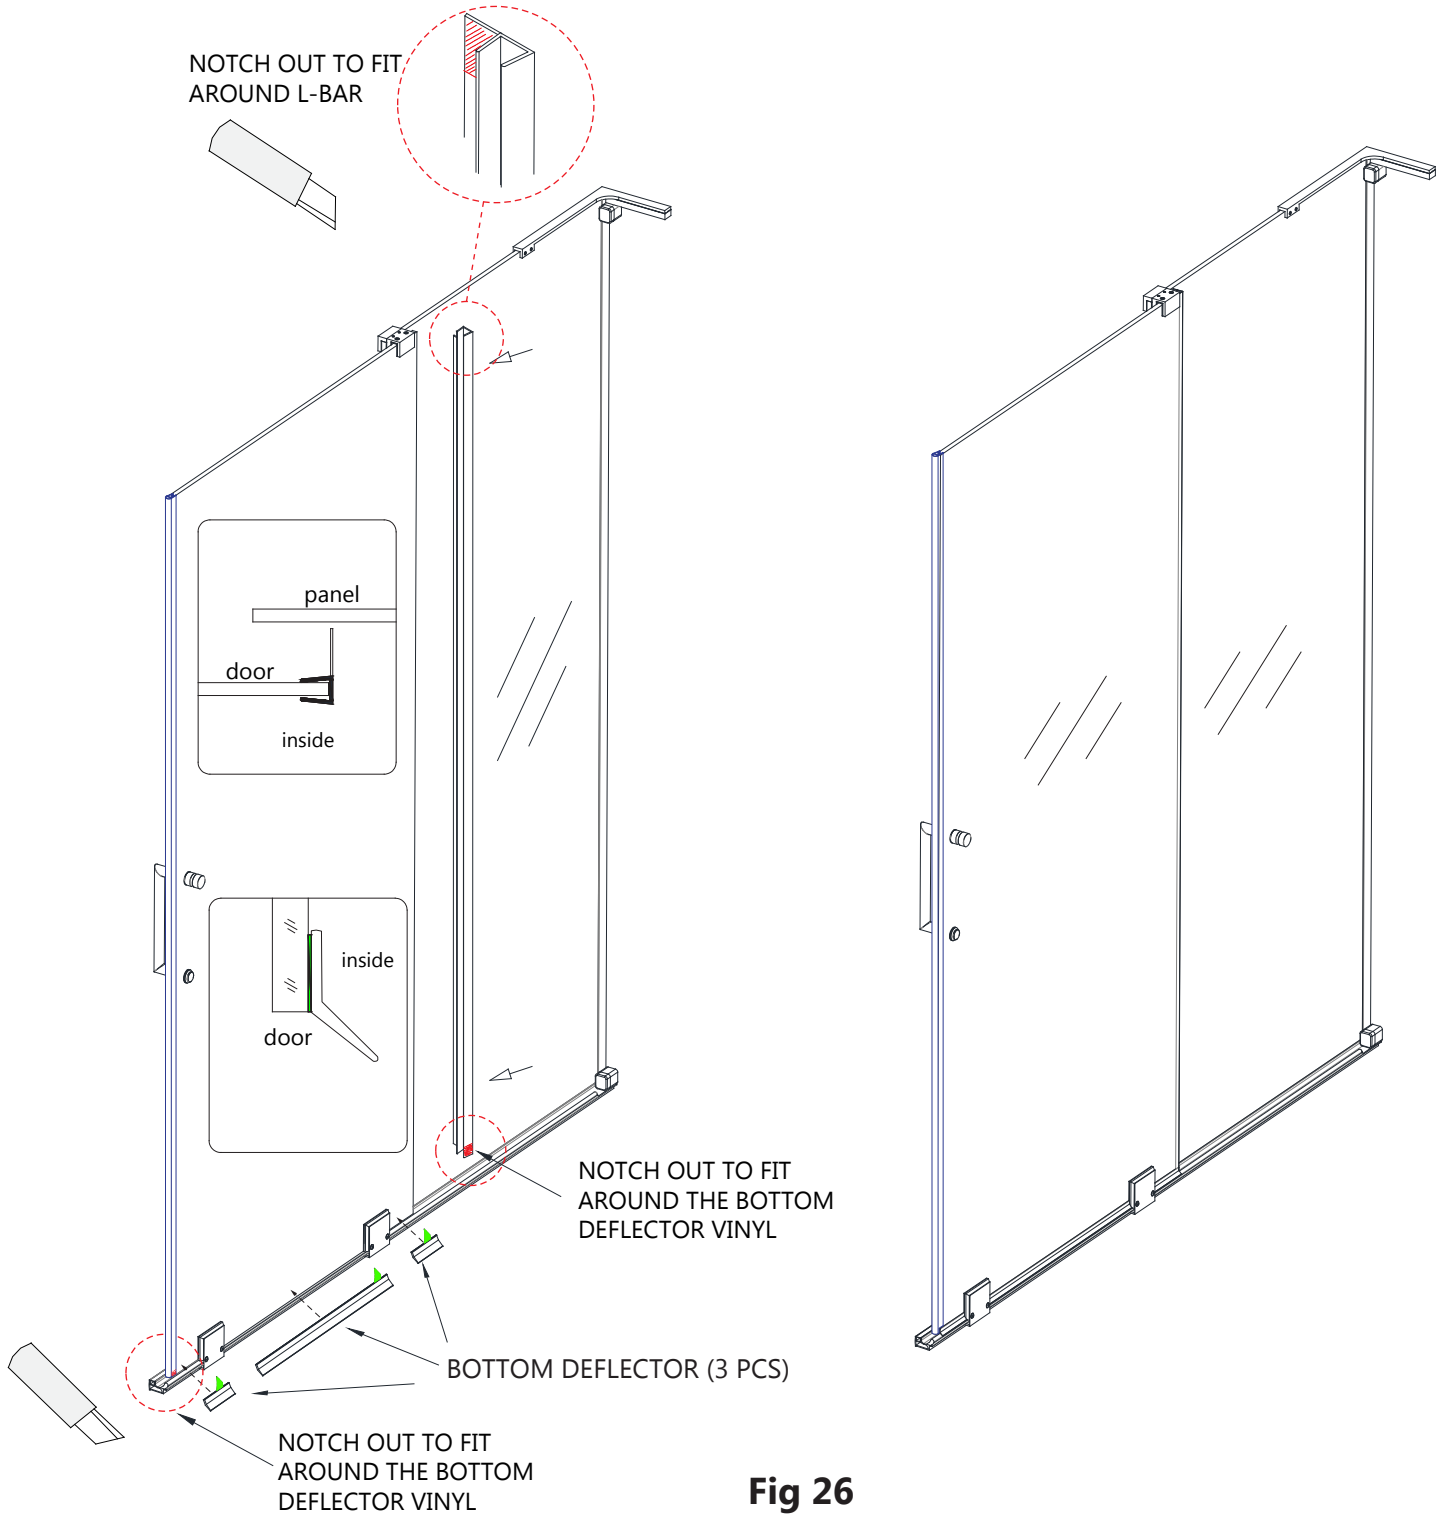

Fig 26
21. Remove the paper strip from the adhesive backing of the **Bottom Deflector (#18)** and attach all three strips to the bottom edge of the **Door Glass (#02)** as shown. Attach the **Anti-water side strip (#19)** to the edge of the **Door Glass (#02)**. Notch off the inside bottom to fit around the **Bottom Deflector (#18)**. Also, notch the bottom of the **Bumper Seal Strip (#13)** to fit around the **Bottom Deflector (#18)**. (**Fig 26**).